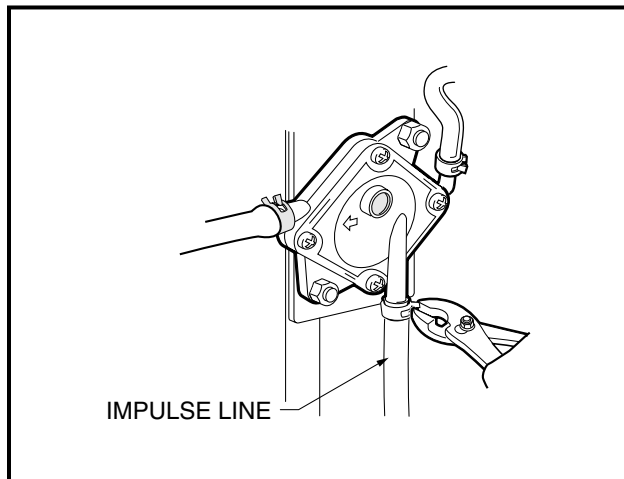

Figure 16-56 Impulse Line
30. Connect the impulse line to the fuel pump and secure it with the hose clamp (**Figure 16-56, Page 16-21**).